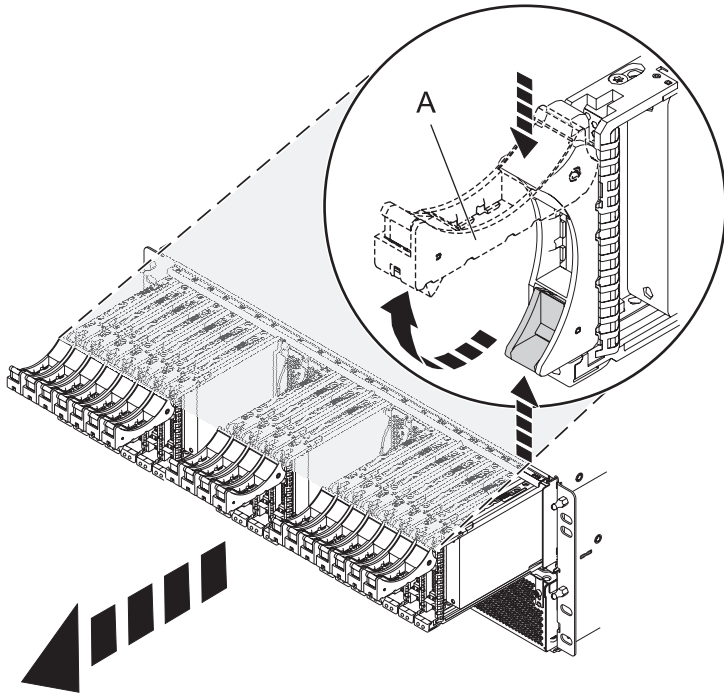

Figure 85. Removing the drives from the backplane
4. Remove the drives and fillers as shown in Figure 85 on page 102.